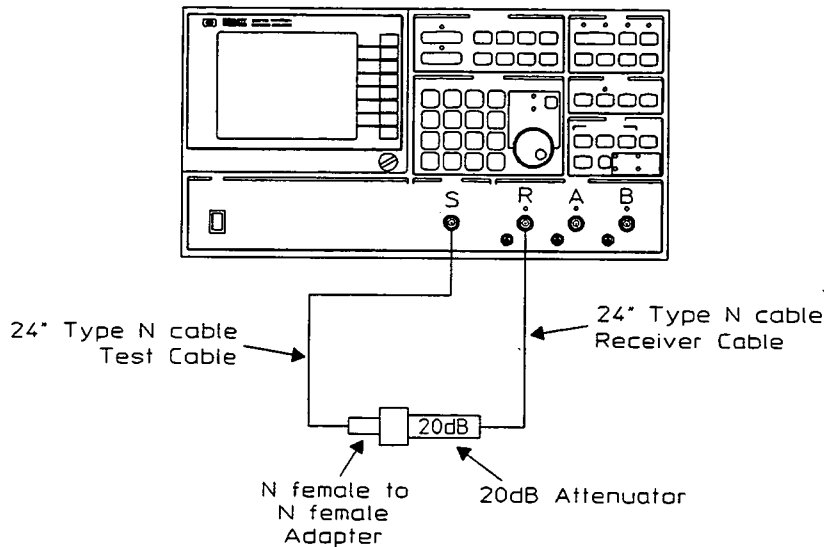

Figure 3-14. Calibration of Transmission Loss from Power Splitter to Channel R
- i. Connect the equipment as shown in figure 3-14.